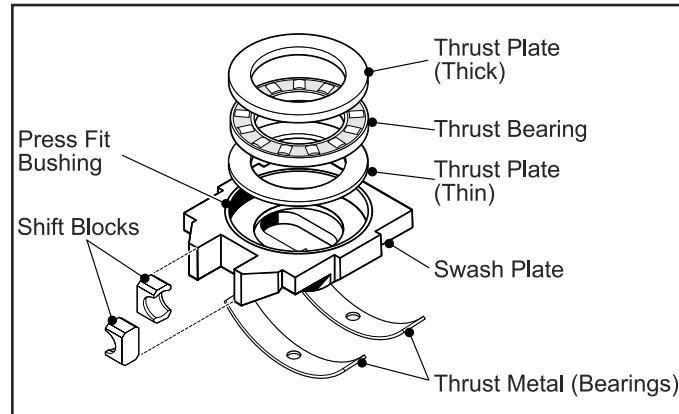

Fig. 36, Thrust Metal Bearing Removal
- Remove the Thrust Bearing seated in the Swash Plate. (Fig. 36)
- Remove the Swash Plate. (Fig. 36)
- Remove the (2) Thrust Metals (bearing pads) from the Upper Case. (Fig. 36)